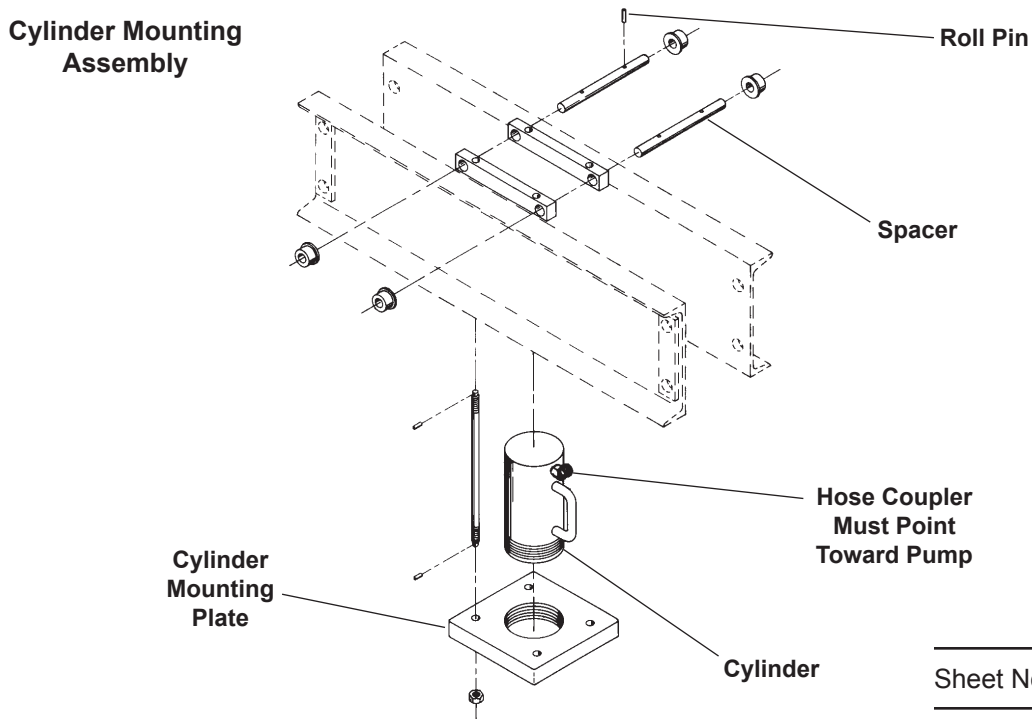

FIGURE 3
- B. Remove the four roll pins and spacers connecting the cylinder mounting plate to the threaded rods of the cylinder mounting assembly. See Figure 3, below. Remove the mounting plate.